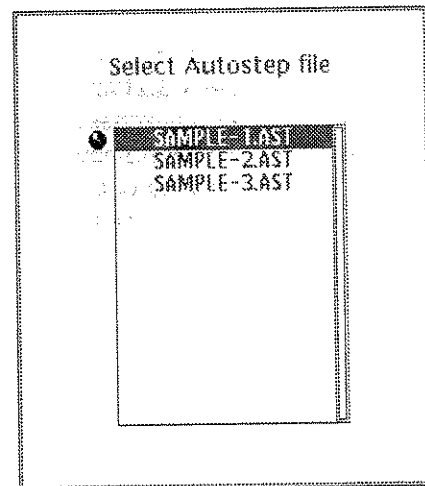

Figure 4C-7: Autostep File List
- Step 3:** Choose **Select Autostep File** from the sub-menu. When this item is selected, the list of autostep files created with the autostep editor is displayed. See Figure 4C-7.